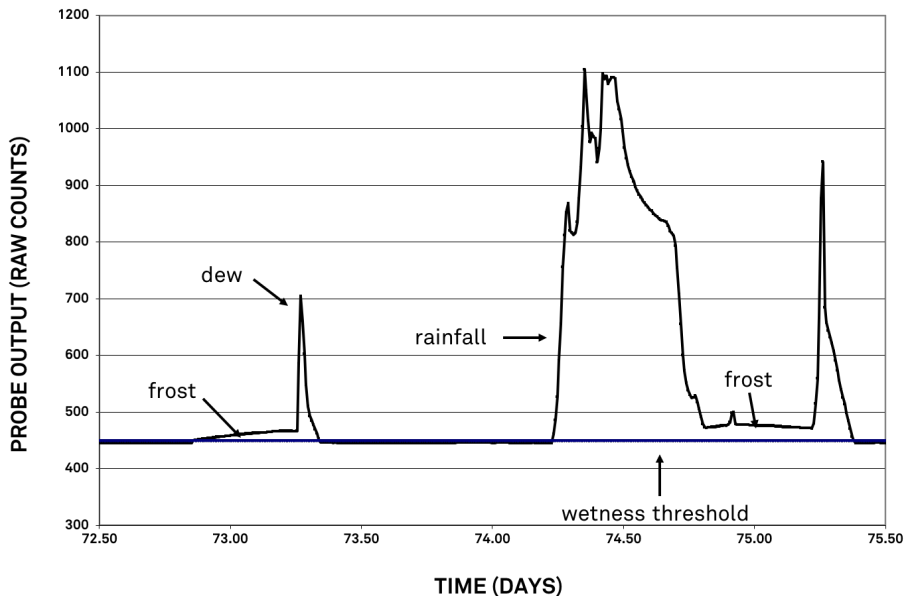

Figure 5 Example raw PHYTOS 31 output
A dry PHYTOS 31 outputs approximately 435 raw counts when read with METER data loggers. When the sensor is totally wet, as in a heavy rain, the signal can range up to around 1,100 counts. Varying amounts of water on the surface of the sensor cause a sensor output proportional to the amount of water on the sensor's surface. Ice has a much lower dielectric constant than that of liquid water, so the sensor output from frost is much lower than that from a similar amount of rain or dew (Figure 5).
- Column 3: The final reading in raw counts of the PHYTOS 31 during the wake interval. For example, if a 30-min wake interval has been chosen, the number in column 3 is the output in raw counts from the PHYTOS 31 during the last minute of that 30-min period. This data column can be used in the event of an extremely dirty PHYTOS 31, which may force the dry output higher than 460 raw counts. In this case, the user can identify a new wetness threshold from the time series data and calculate wetness duration from the new threshold until the sensor can be cleaned (Section 2.3.2). The data in this column only gives a wetness reading every wake interval (typically 30 min or more), instead of the 1-min wetness resolution available in column 1 and 2. This column can also be used for understanding the phase of the water, as shown in Figure 5, as well as the amount of water (as discussed in Predicting the amount of water on the surface of the PHYTOS 31 dielectric leaf wetness sensor).
The PHYTOS 31 dry output is easily determined from time series data such as those presented in Figure 5. A wetness threshold should be chosen that is slightly above the dry output, and subsequent readings should be compared to the dry output to determine surface wetness. When using a non-METER data logger, it is important to collect data frequently enough to capture changes in the surface wetness. A sampling frequency of 15 min or less is often necessary to accurately capture leaf wetness duration.